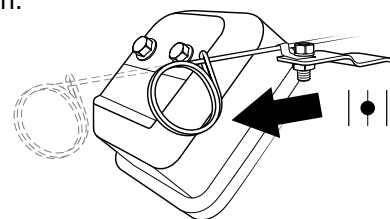

Figure 13. Engine Choke Lever (Open)
5. If starting a warm engine or the temperature is warm, **pull** the choke lever outward (Figure 13) to the **OPEN** position.
- Make sure the choke lever is placed in the **OPEN** position (Figure 13) before operating the power buggy. Before the buggy is placed into operation, run the engine for several minutes. Check for fuel leaks, and noises that would associate with a loose guard or cover.